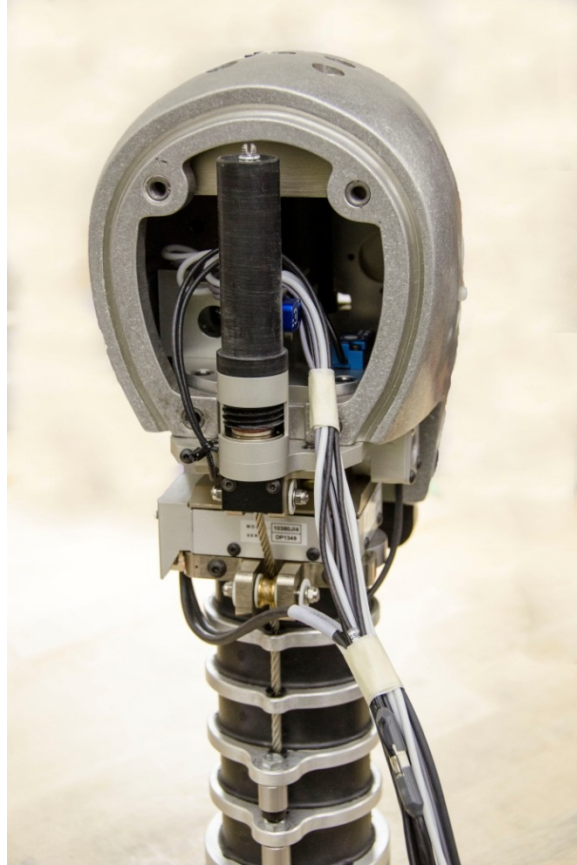
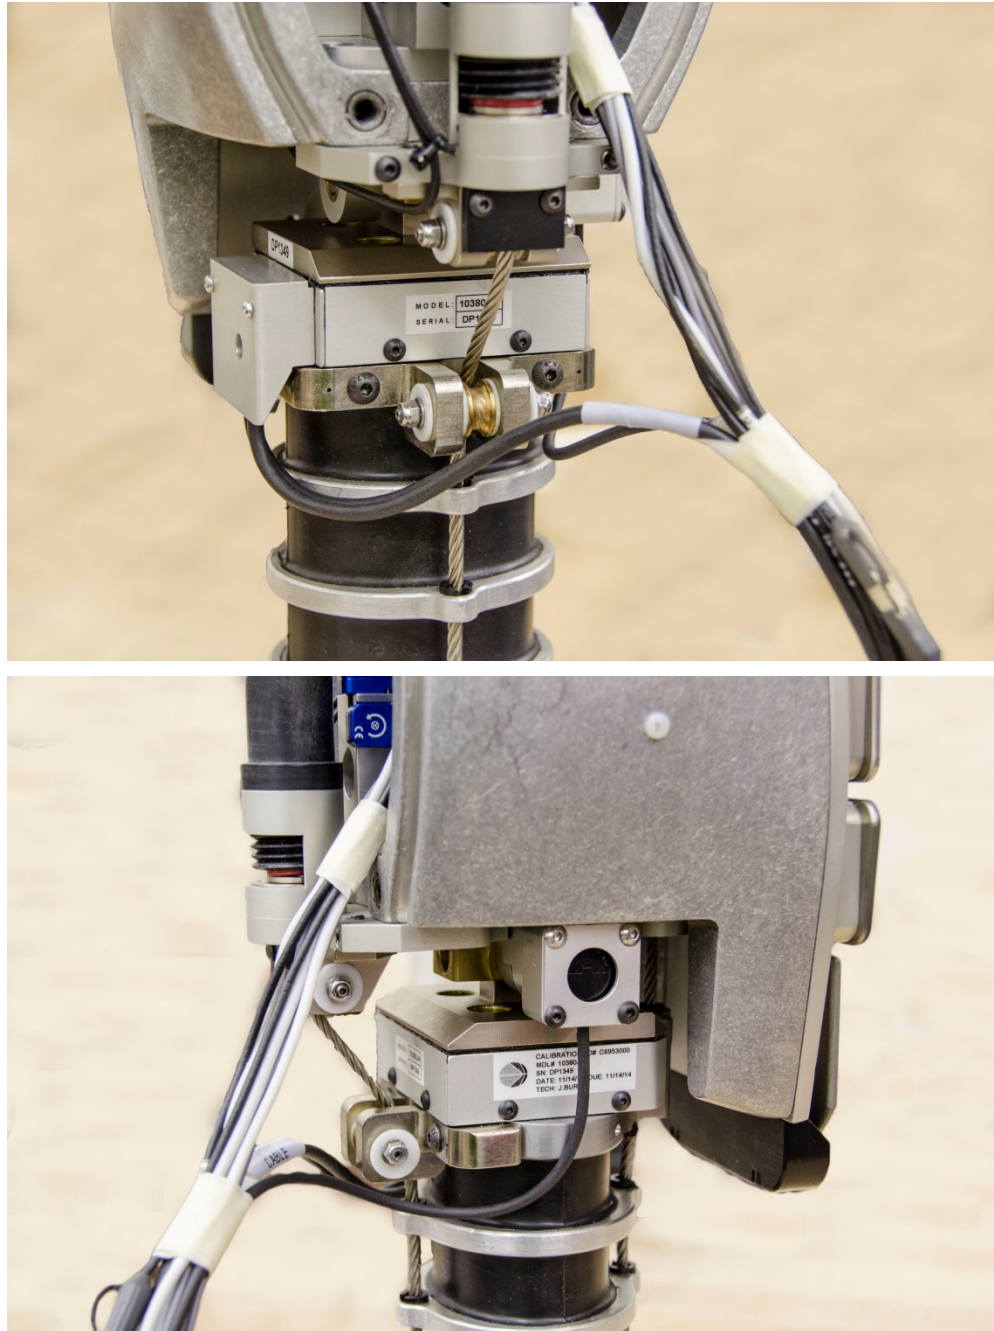

Figure 15-15. Secure wiring from upper neck load cell and occipital condyle to head bundle
Figure 15-17. Routing Occipital Condyle and upper neck load cell wires
- 15.4.1.6 Add the wires from the upper neck load cell and occipital condyle pot to the bundle using masking tape (Figure 15-15 and Figure 15-17). Leave sufficient slack in the wiring to allow for neck flexion or extension.